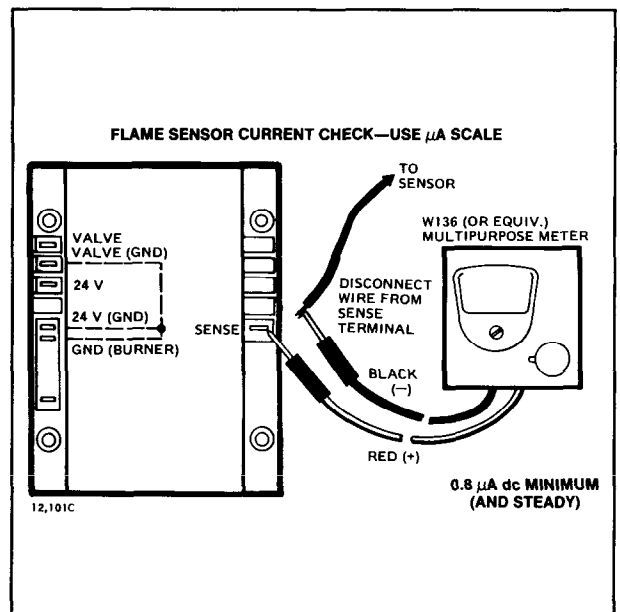

FIG. 6—S89 FLAME CURRENT MEASUREMENT.
1. Connect a meter (dc microammeter scale) in series with the flame sensor lead as shown in Fig. 6. Use the Honeywell W136 Test Meter or equivalent. Connect the meter as follows: